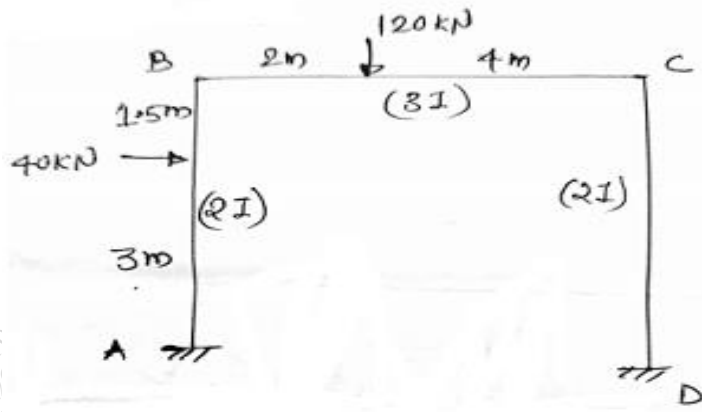

Fig. 3
Q.4 Analyze the frame shown in fig.3 by column analogy method.
Q.4 Analyze the portal frame shown in fig. 3 by using column analogy method. and draw BMD. 15